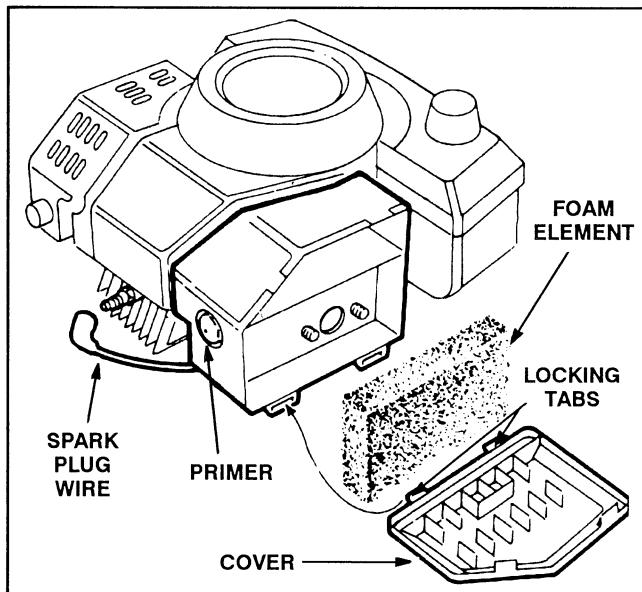

Figure 7
2. Push spark plug wire onto spark plug (Fig. 7).
3. STARTING—Move throttle to  (CHOKE) (Fig. 5). Cover hole in center of primer with thumb and push once (Fig. 7). Lift control bar to handle and hold. Pull fingertip starter out until positive engagement results; then pull vigorously to start the engine. After engine starts, remove throttle from  (CHOKE) and regulate as desired.
1. Stop engine and wait for all moving parts to stop. Pull wire off spark plug (Fig. 7).
2. Lift tabs at top of air cleaner cover and pivot cover down. Clean cover thoroughly (Fig. 7).
3. If outside of foam element is dirty, remove it from air cleaner body (Fig. 7). Clean thoroughly.
1. Stop engine wait for all moving parts to stop. Pull wire off spark plug (Fig. 7).